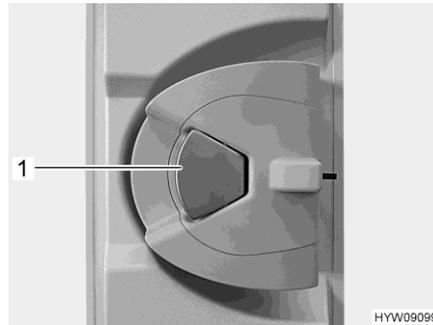

Fig. 29 Door lock (conversion door, inside)
- When the door lock is locked: Pull once at the door handle (Fig. 29,1). The door is unlocked.
- Pull on the door handle (Fig. 29,1). The door is open.
- Push the door handle (Fig. 29,1).